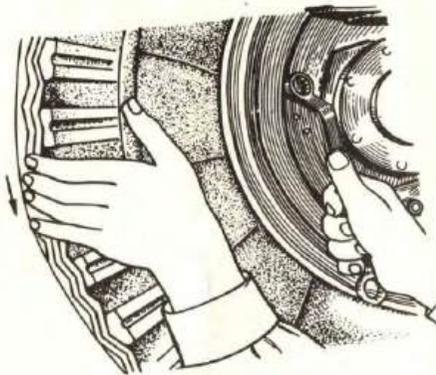

Fig. 51. Shoe Clearance Adjustment
2. Turning the wheel, gradually turn the adjusting cam until the brake drags (Fig.51).